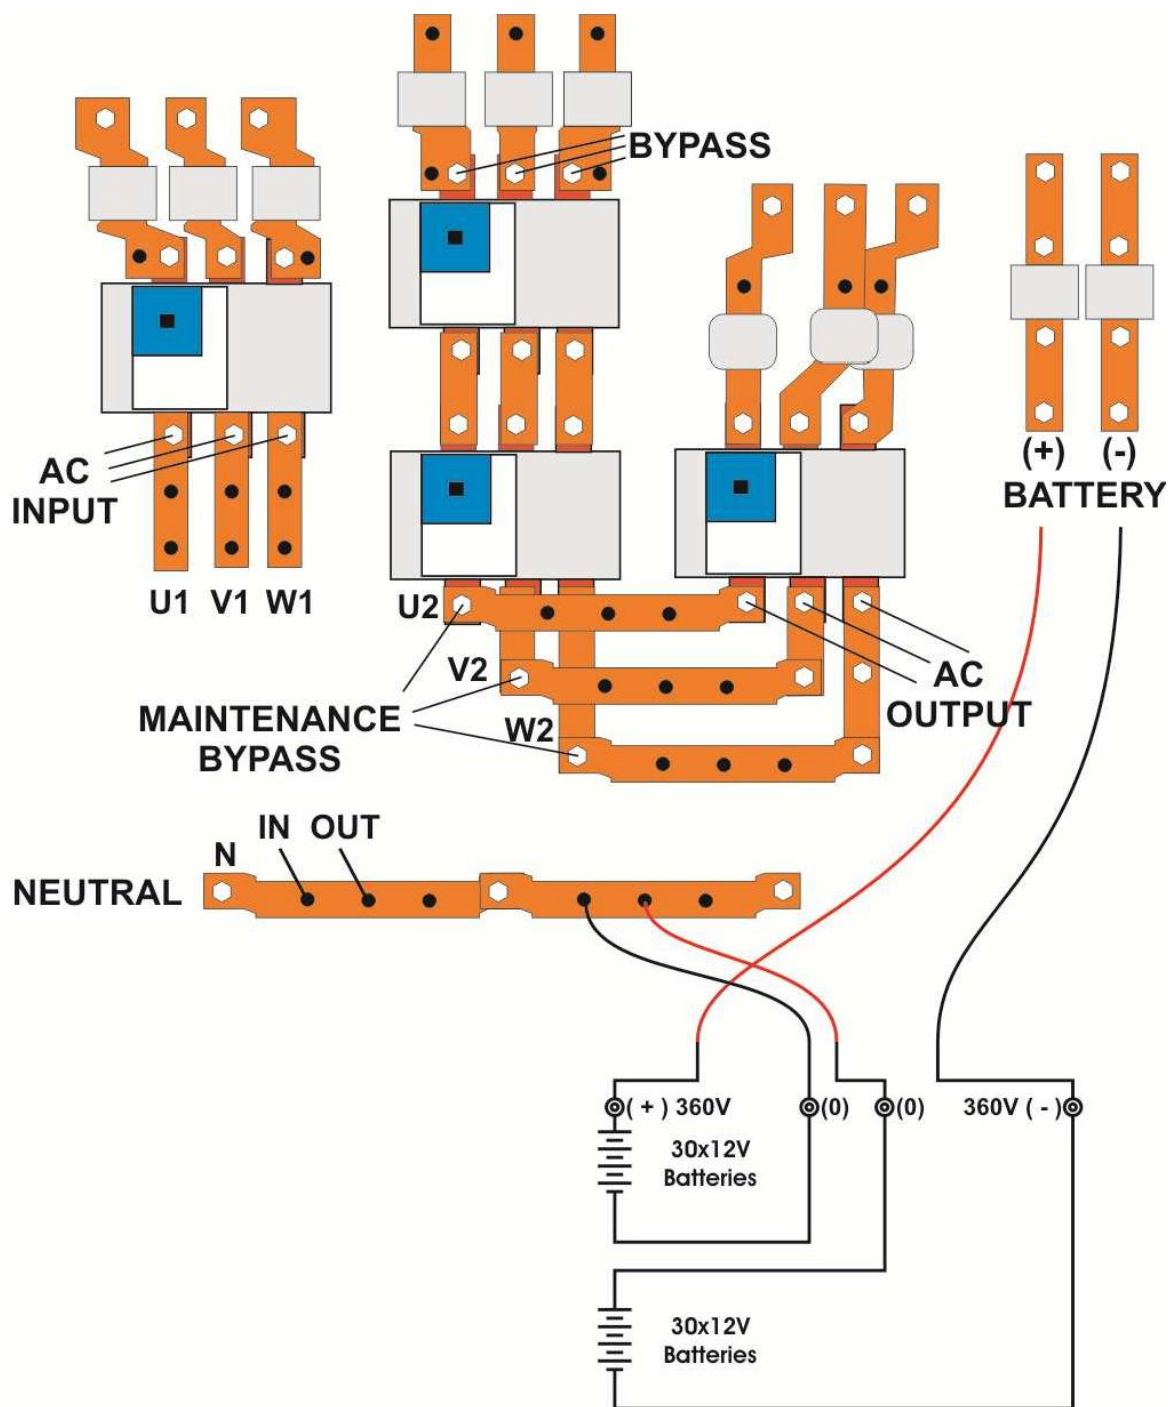

Figure 2.2 200 - 250 - 300 – 400-500 kVA POWER Cable
Descriptions of the UPS input output cable connection terminals are shown in figure 2.2
2. Connect the 3 phase AC input coming from the mains distribution panel to the AC input terminals as shown on the label. (Figure 2.2)